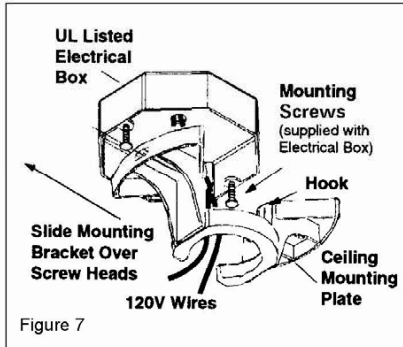
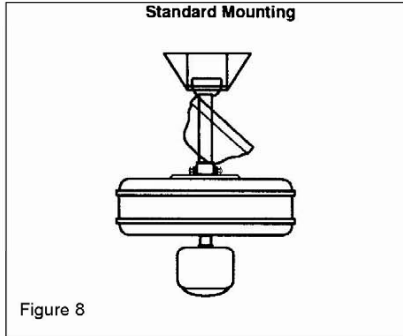

Figure 7
Figure 8
1. Pass the 120-volt supply wires through the center hole in the ceiling mounting plate as shown in Figure 7.
2. Install the ceiling mounting plate on the electrical box by mounting screws provided with the outlet box. Note that the flat side of the mounting plate is toward the electrical box (Figure 7).
4. Carefully lift the fan assembly up to the ceiling mounting plate and hang the fan on the hook provided by utilizing one of the holes at the outer rim of the ceiling canopy (Figure 7). Seat the hanger ball in canopy. Make sure the tab in the ring at the bottom of the canopy is properly seated in the groove in the hanger ball (Figure 8).
THE HOOK AS SHOWN IN FIGURE 7 IS ONLY TO BALANCE FAN WHILE ATTACHING WIRING. FAILURE TO HANG AS SHOWN IN FIGURE 8 MAY RESULT IN HOOK BREAKING CAUSING THE FAN TO FALL. HOOK MUST PASS FROM INSIDE TO OUTSIDE OF CANOPY.